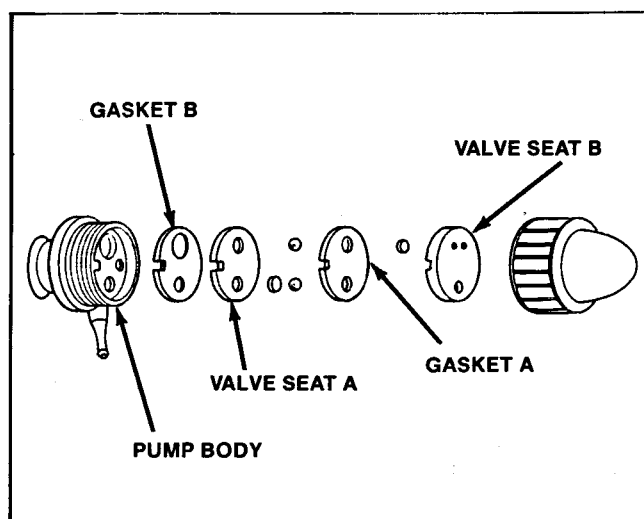

Figure 42
1. Before reassembling, familiarize yourself with the configuration of the parts to ensure they are properly installed. See Fig. 42.